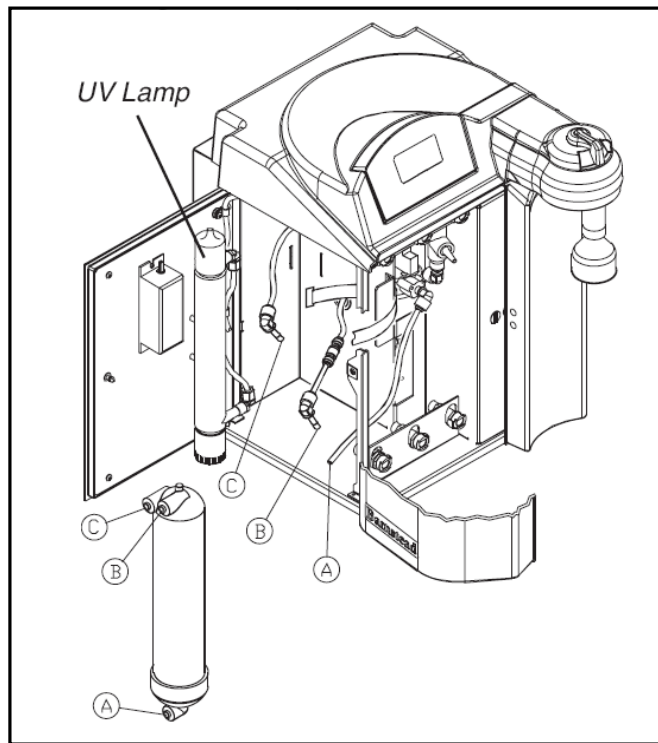

Figure 3-9a. Schematic of the UV and RO Placement in the Barnstead TII. (a) is FEED, (b) is PRODUCT, and (c) is REJECT.
1. Remove the RO membrane from its packaging. Note the location of the FEED, PRODUCT, and REJECT connections on the membrane. The correct orientation for the installed membrane will be vertical, with the Feed connection on the bottom. See Figure 3-9A.
3. Referencing Figure 3-9A, locate the three unconnected tubes (two with elbows, one without) labeled FEED (A), PRODUCT (B) and REJECT (C). Refer to the Push-to-Connect Fitting Tubing Install in this section and mark FEED tubing 3/4" (1.9 cm) from end.
4. Make FEED (A) connection by first wetting the tube with water and pushing it firmly into the membrane connector.
6. Make the PRODUCT (B) and REJECT (C) connections by first wetting the tube stem of the elbow with water and pushing it firmly into the membrane connector.